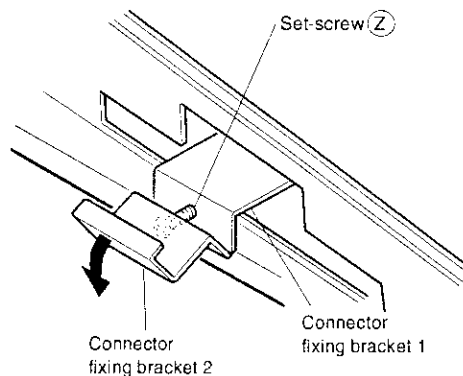

Fig. 4
- 9) Loosen the set-screw ② that serves to join the slip connector fixing bracket 1 and the connector fixing bracket 2 and connect the connector from the slip printer to the interface PWB unit. (See Figs. 4, 5 and 6.) (When connecting the connector to the interface PWB unit, make sure that the connector is locked with a click.)